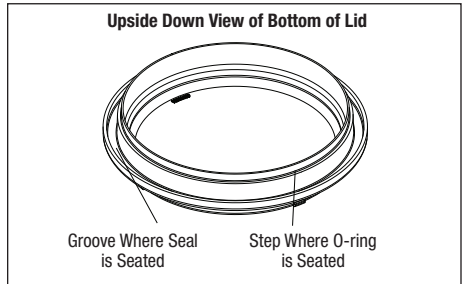

Figure 16. Placement of Blue Pressure Test O-ring
2. Place the blue O-ring on the step located ¼" from the bottom of the lid. See Figure 16.